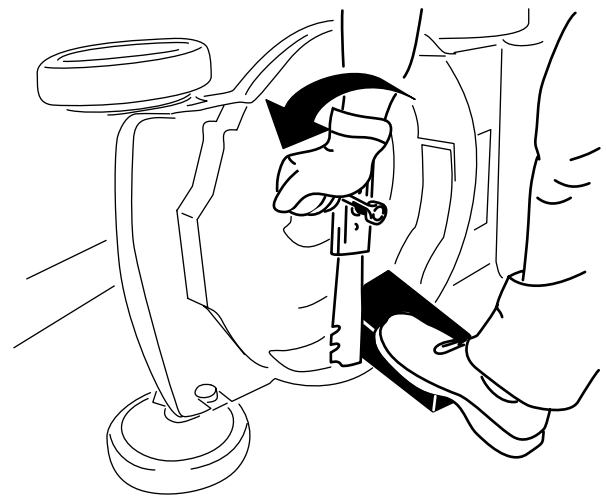

Figure 25
2. Use a block of wood to hold the blade steady (Figure 25).
3. Remove the blade, saving all mounting hardware (Figure 25).